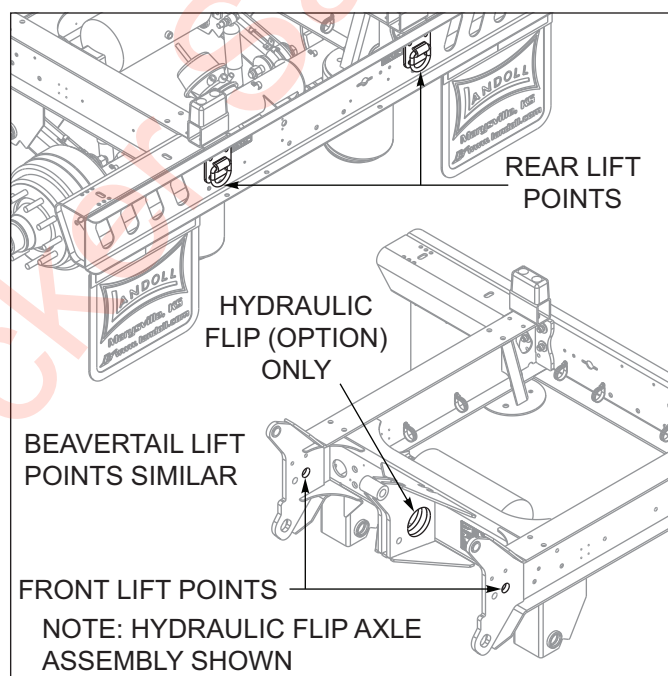

Figure 5-19: Flip Axle Lift Points
8. Using a mechanical lifting device and a sling, support the flip assembly. *See Figure 5-19.*
2. Using a mechanical lifting device and a sling, support the flip assembly. **See Figure 5-19 on Page 5-28.**